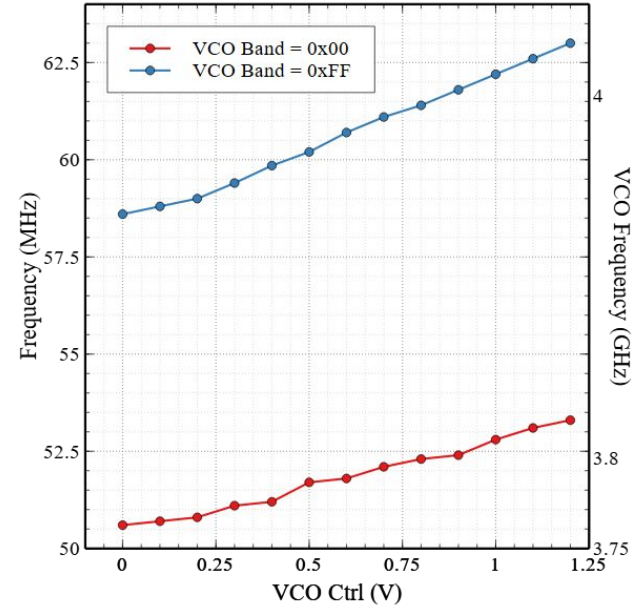

Figure 17. Frequency variation with clock divided by 64.
- Fine frequency tuning is achieved through VCOctrl voltage (0-1.2V). See Figure 17.